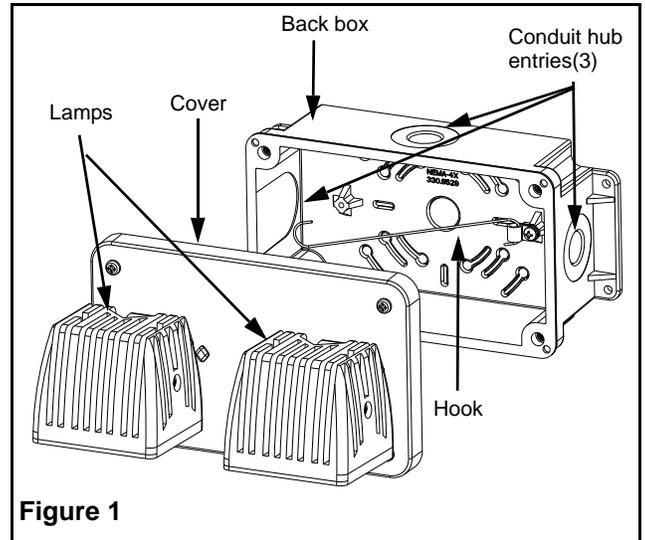

Figure 1
1. Remove the cover from the back box (See figure 1).
1. Ouvrir le couvercle de l'unité (Figure 1).